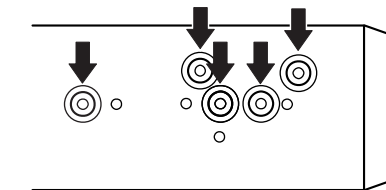

Fig. 12
2. Fastening the unit to the factory radio mounting bracket. (Fig. 12) (Fig. 13)